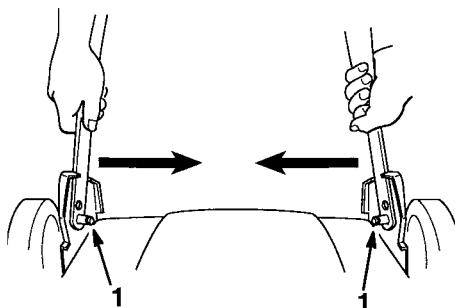

Figure 18
1. Squeeze bottom handle sections together and slide off handle pins (Fig. 18).